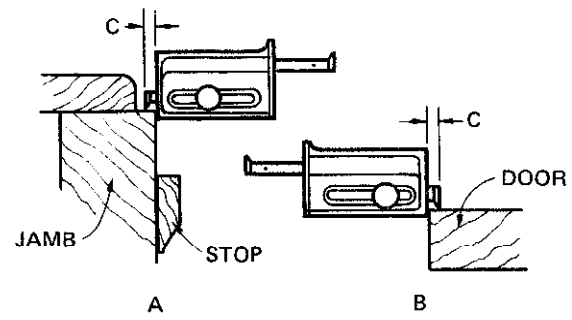

Fig. 4-14 Setting the gauge for depth of gain
5. Set the gauge for the depth of the gain (B, figure 4-14). Mark the depth of the gain in the same manner as described for the width.